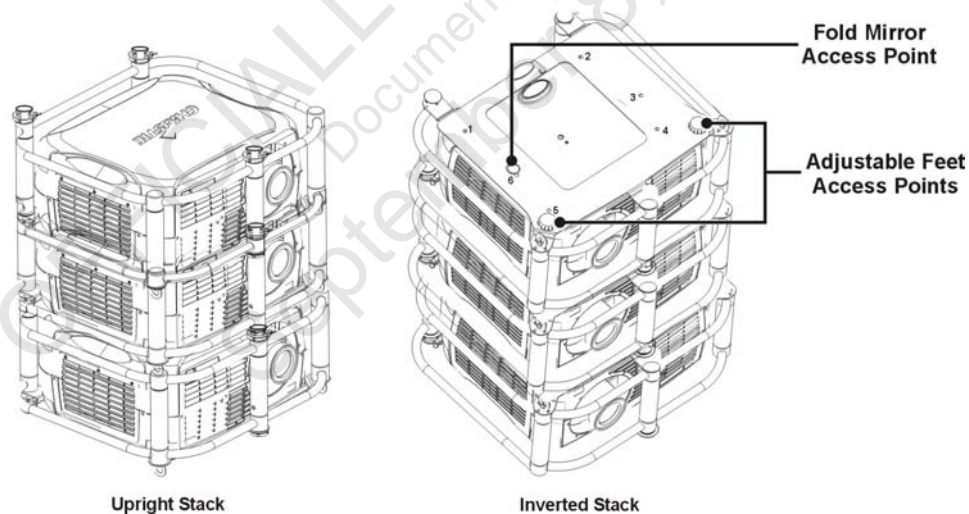

Figure 2. Projector Orientation for Stacking Frame Assembly
2. Place the projector into the stacking frame so the cut-outs in the bottom mounting plate of the frame align with the fold mirror and adjustable feet access points on the projector. Refer to Figure 2.
3. Use a 10mm socket wrench to tighten the six (6) M10 bolts securing the mounting plate to the bottom of the projector. Refer to Figure 2.